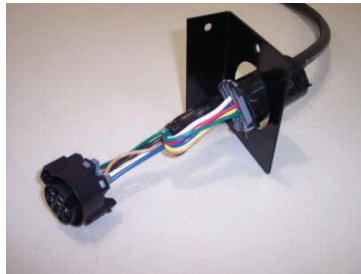

Figure 1
2. Start feeding the cable through the bracket starting with the shorter of the two small plugs as shown in figure 1.